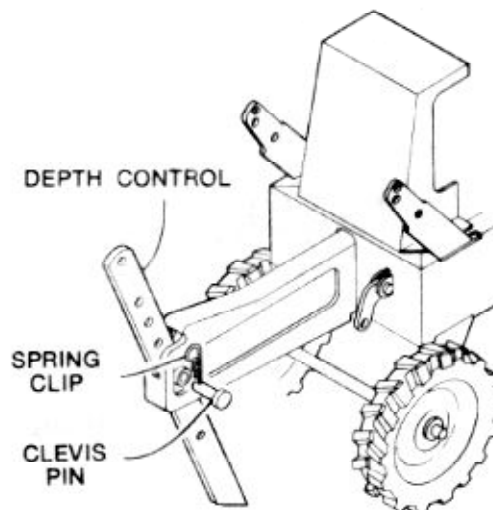

FIG. 3
4. Attach the depth control to the tailpiece, Fig. 3. Slide depth control into slot in rear of tailpiece and secure, using the "short" clevis pin* and spring clip*.